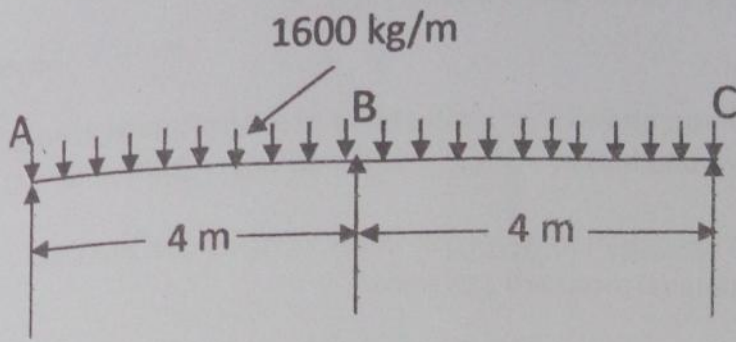

Fig. 1
3. (a) A continuous beam ABC (Fig.1) is simply supported at A, B and C. The support C is yielding and settles at the rate of 3 mm per 1000 kg.  $EI = 8 \times 10^{10} \text{ kg.cm}^2$ . Analyse the beam and draw bending moment and shear force diagrams. 25